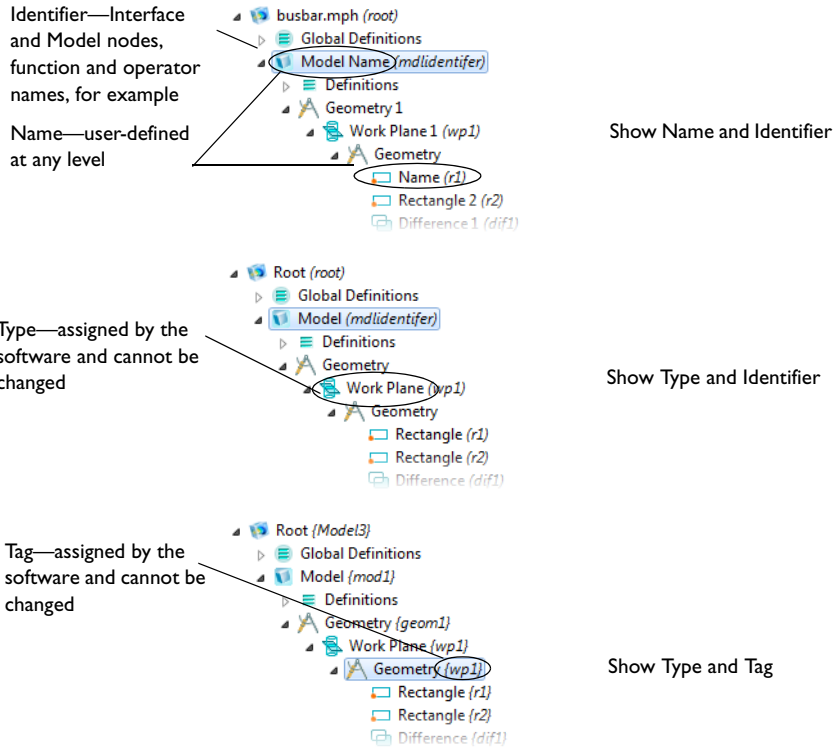

Figure 7-4: Examples of the available label combinations on the View menu.
- 2 Select **View>Model Builder Node Label** to select from the list: **Show Name Only**, **Show Name and Identifier**, **Show Name and Tag**, **Show Type and Identifier**, or **Show Type and Tag**. See Figure 7-4 for examples of the different label types.